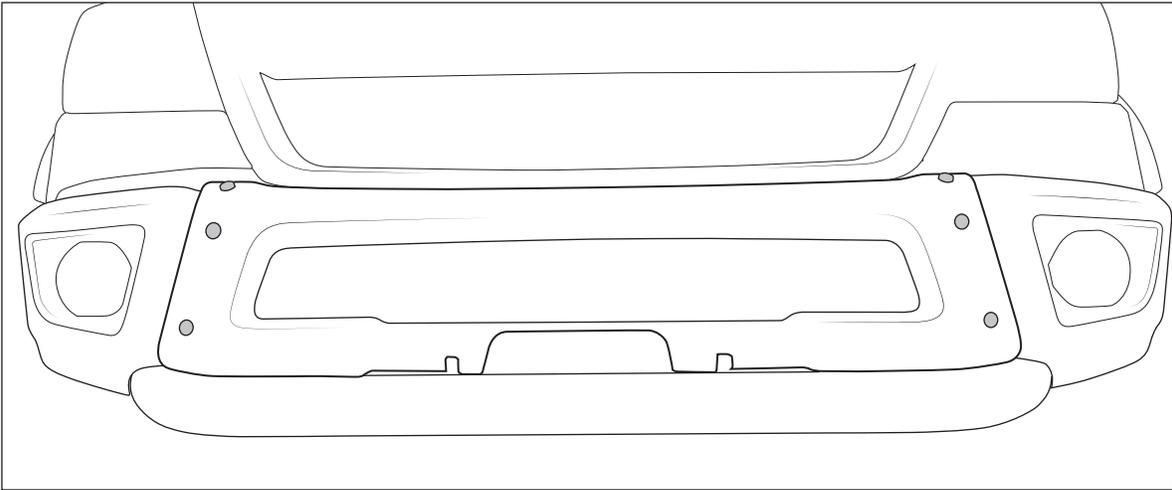

Figure 15
- Fasten the center section to the bumper using the hardware removed in the previous step (fig. 15)